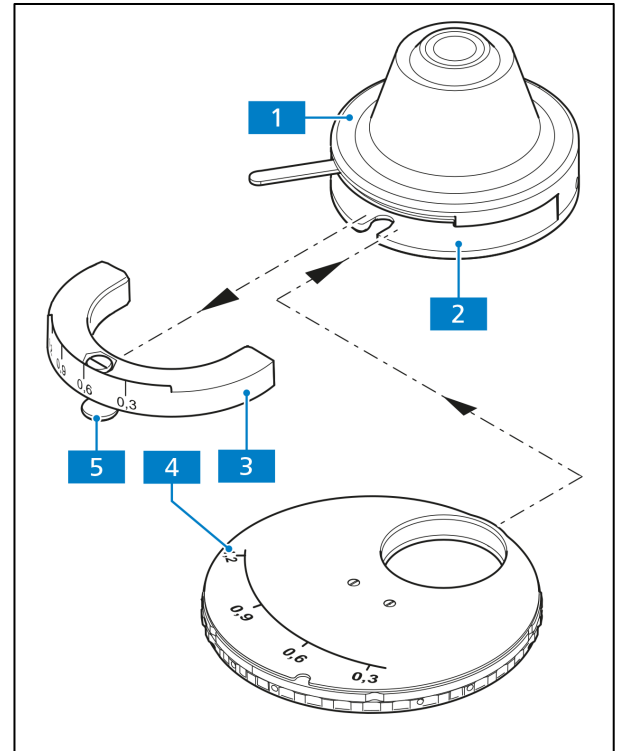

Fig. 3-49 Inserting the modulator disk in the 0.9/1.25 H condenser
- Remove the condenser (Fig. 3-49/1) from the condenser carrier (see section 3.1.13).
- Loosen the clamping screw (Fig. 3-49/5) of the condenser's dial segment (Fig. 3-49/3) with the Allen wrench (AF 3) and pull out the dial segment.
- Slide the modulator disk (Fig. 3-49/4) with its two-pronged forked opening pointing forward into the condenser opening (Fig. 3-49/2). Make sure that the disk engages in the guide on both inner sides of the condenser. The guide serves as a stop for the modulator disk. The pin of the disk's clamping screw must slide into the orientation groove of the condenser.